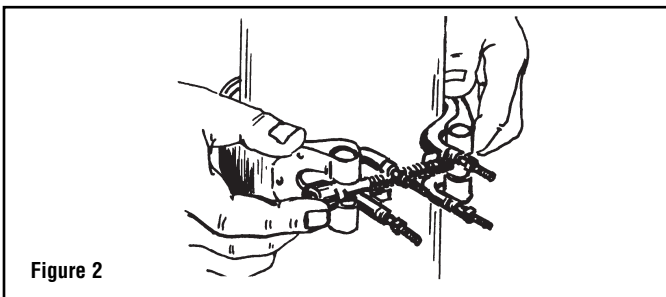

Figure 2
2. When heater band is correctly placed in the desired location, compress ends of band together and snap bolt head into trunnion socket as shown in Figure 2.